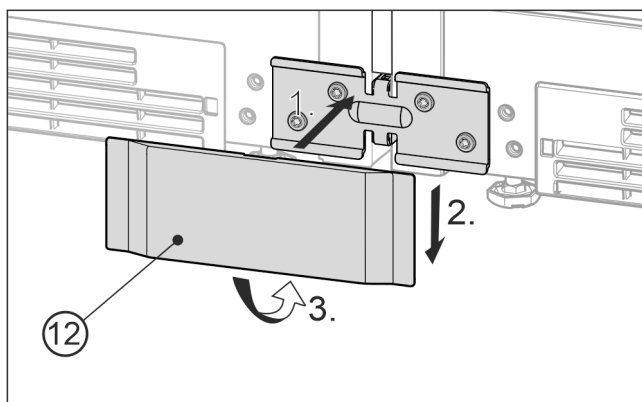

Fig. 24 Example illustration
- ▶ Place the bottom cover *Fig. 24 (12)* onto the bracket from the front *Fig. 24 (1)*, slide it down *Fig. 24 (2)* and snap it in at the bottom *Fig. 24 (3)*.